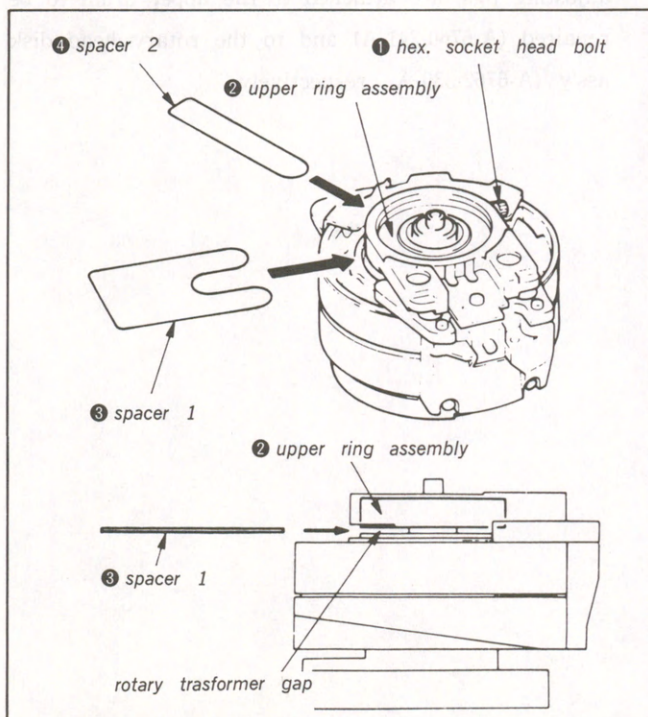

Fig. 7-12. Adjusting the flying erase head rotary transformer gap.
- 9) Confirm if Spacer 1 comes between the flying erase head rotary transformer and the upper drum assembly, and if Spacer 2 does not. Except for the above situation, adjust the size of the gap between the transformer and assembly (Fig. 7-12).
7-3-4. Adjusting Flying Erase Head Rotary Transformer Gap (Fig. 7-12)